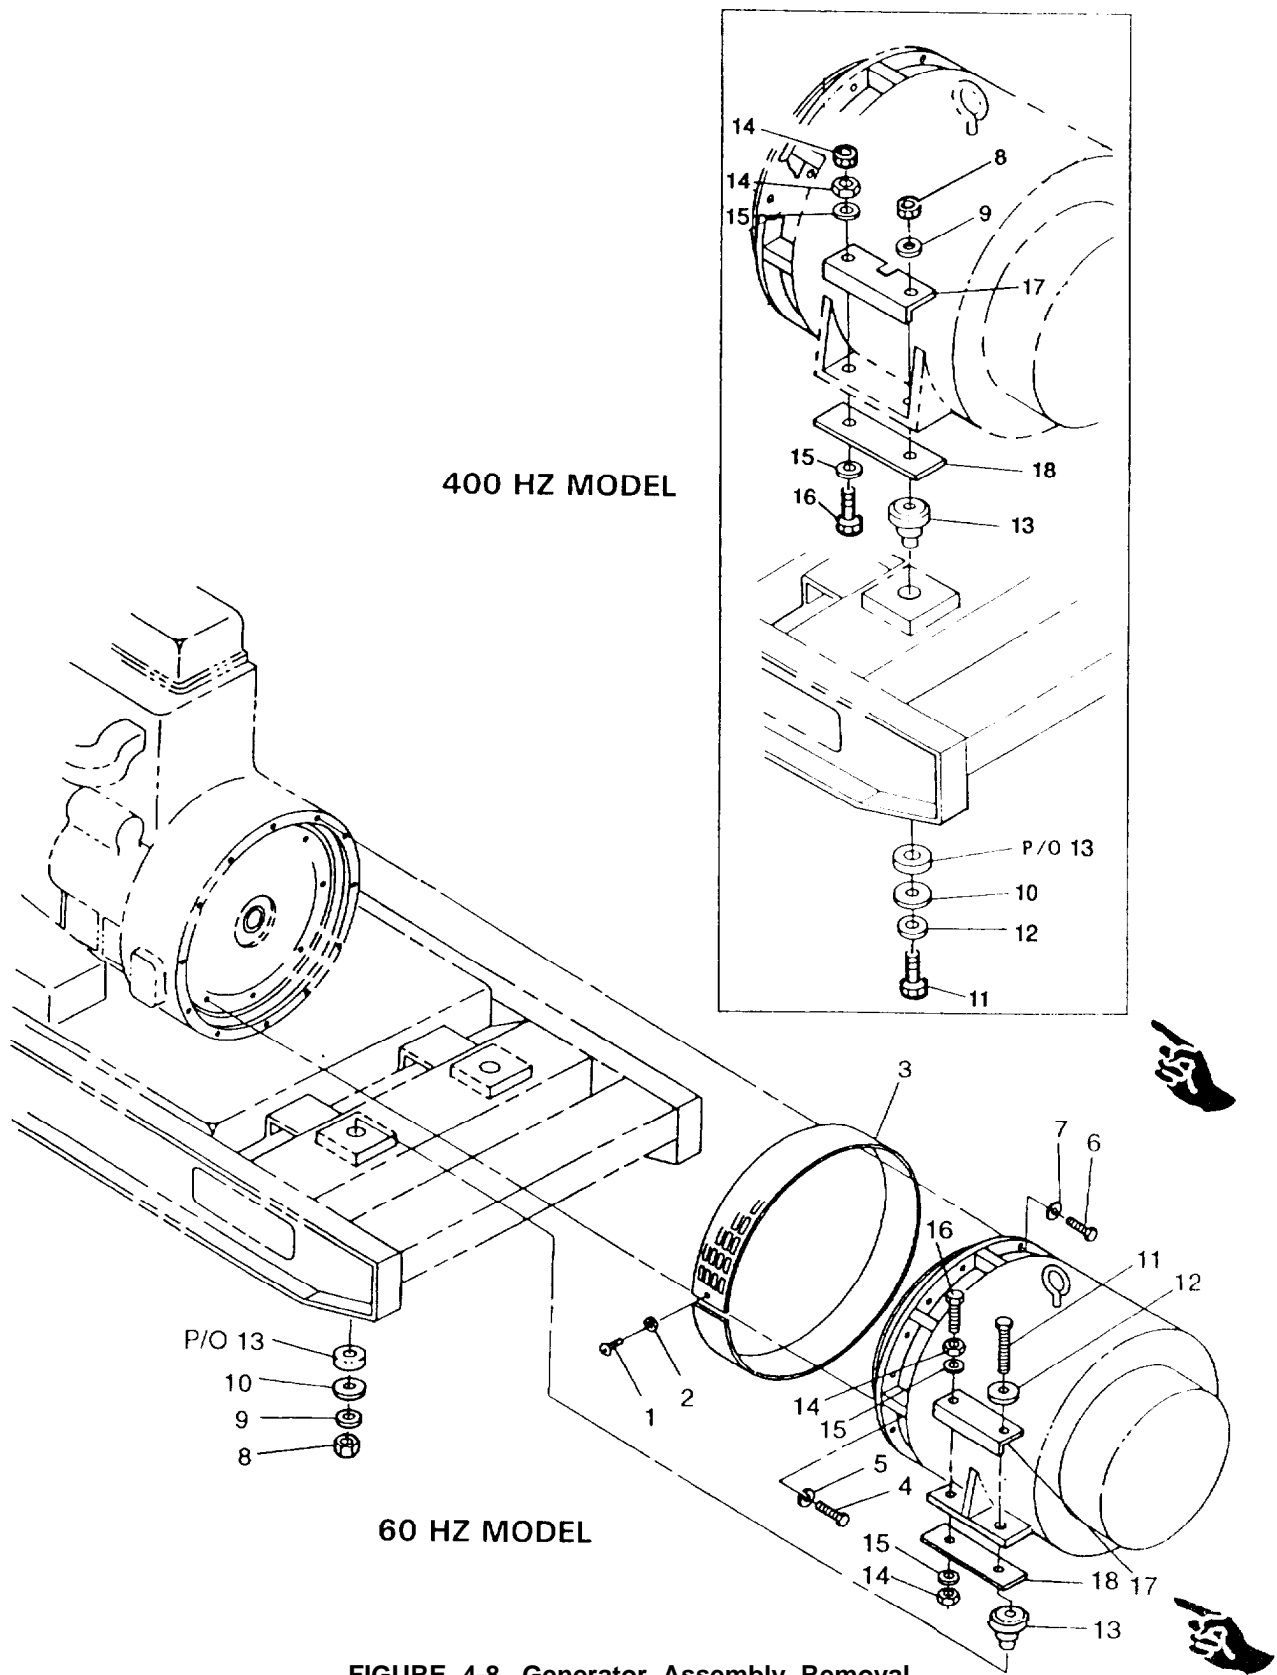

FIGURE 4-8. Generator Assembly Removal
- g. Remove bolts (4) and lockwashers (5) securing generator drive disc to engine flywheel.
- h. Remove bolts (6) and lockwashers (7) securing generator to engine flywheel housing.
- i. Remove nuts (8), washers (9), snubbing washers (10), bolts (11), and Belleville washers(12) securing generator to skid base.
- k. Remove shock mounts (13) from skid base.
- l. Remove nuts (14), washers (15), bolts (16), angles (17), and plates (18) from generator.
- a. Position generator shock mounts (13, FIGURE 4-8) in skid base.
- b. Install angles (17) and plates (18) on generator with bolts (16), washers (15), and nuts (14).